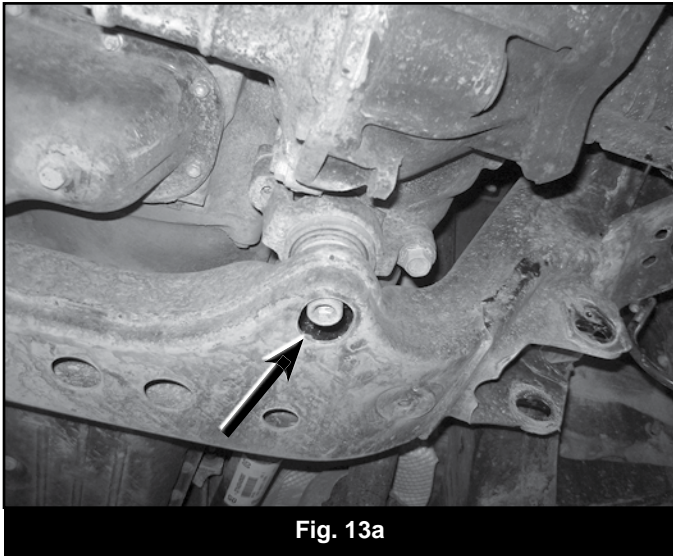

Fig. 13a
21. Remove the 2 forward bolts that attach the differential brackets to the frame. Carefully remove the differential from the vehicle. (Fig 13a, 13b, 13c)